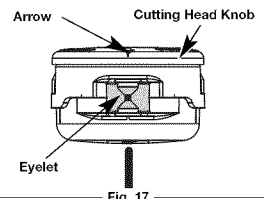

Fig. 17
1. Align the arrows on the cutting head knob with the outer spool eyelets, if they are not already (Fig. 17)